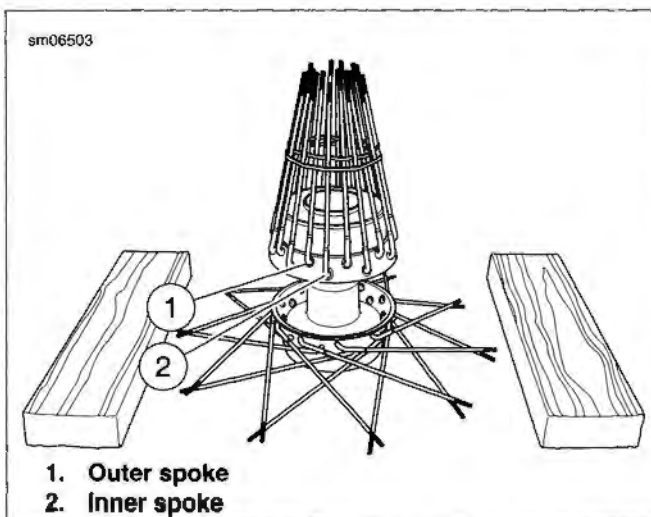

Figure 2-19. Spokes Gathered
3. See Figure 2-19. Flip hub over. Gather all outer spokes and hold upright with a rubber band. Repeat with the inner spokes using a second rubber band.